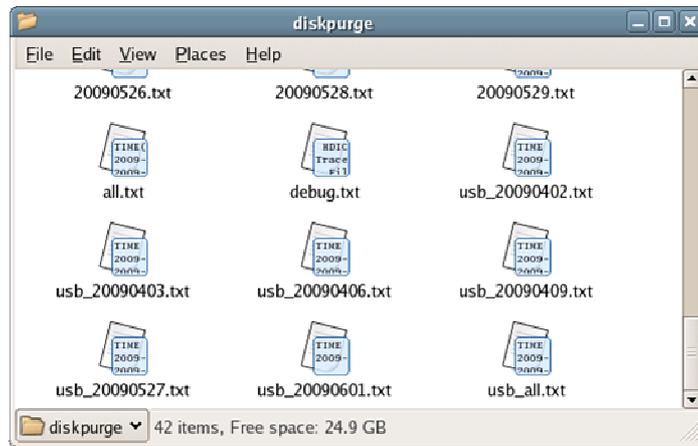

Figure 6.2 – Enterprise Erase Array Log File Directory Window
6.2 After this button is pushed, a window will appear on the screen showing the Disk Purge USB log directory. Figure 6.2 below shows this window.